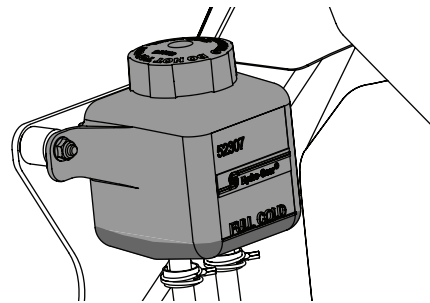

Figure 13
1. Clean the reservoir cap and the area around the cap to prevent debris from contaminating the transmission oil (Figure 13).
2. Turn the reservoir cap counter-clockwise to remove, then check the oil level in the reservoir. Oil should be visible at the bottom of the cup, but the oil level must **NOT** be above the "FULL COLD" line (Figure 13). **DO NOT FILL THE RESERVOIR.**